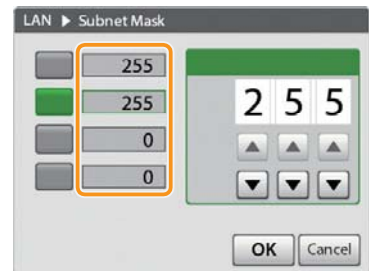

Figure 3-114
4. Input the values into all of the boxes with the same operation as in steps 2 and 3. (Figure 3-114)